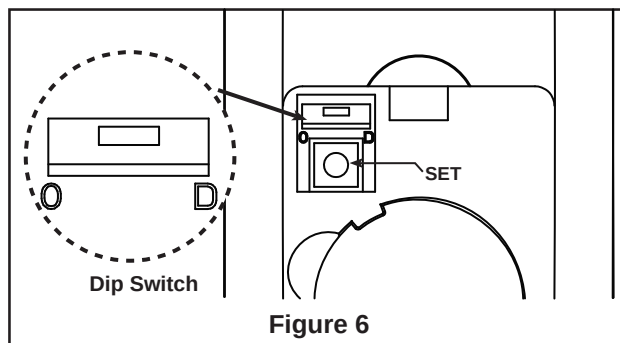

Figure 6
- ☐ **5. Assemble the cover switch housing to adapter-switch housing assembly using the provided screws. (Figure 6)**
For this fan, switch should be in the "D" position, allowing for dimming of the light. (Figure 6)